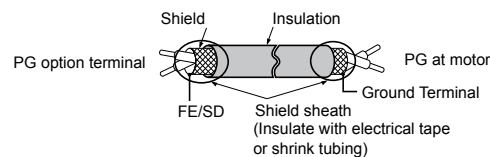
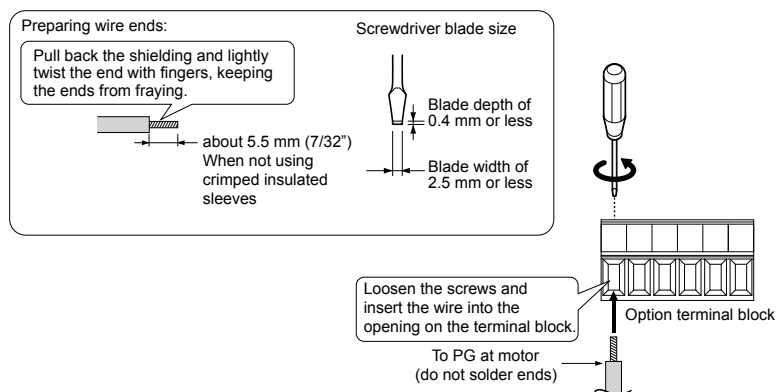

Figure 8.6 Preparing Ends of Shielded Cable
Figure 8.7 Preparing and Connecting Cable Wiring
2. There are two screw holes on the drive for use as ground terminals (H). When connecting three options, two ground wires will need to share the same drive ground terminal.
4. Prepare and connect the wire ends as shown in Figure 8.6 and Figure 8.7. Refer to Wire Gauges and Tightening Torques of PG-X3 Option on page 423 or Refer to Wire Gauges and Tightening Torques of PG-X3 Option on page 423 to confirm that the proper tightening torque is applied to each terminal. Take particular precaution to ensure that each wire is properly connected and that wire insulation is not accidentally pinched into electrical terminals.